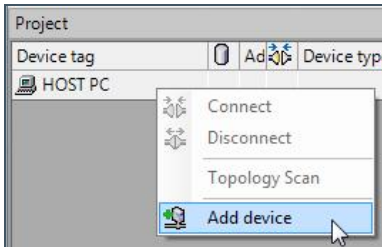

Figure 47: Adding device
- 2) Right-click **Host PC**, then select **Add device** (see Figure 47: Adding device).